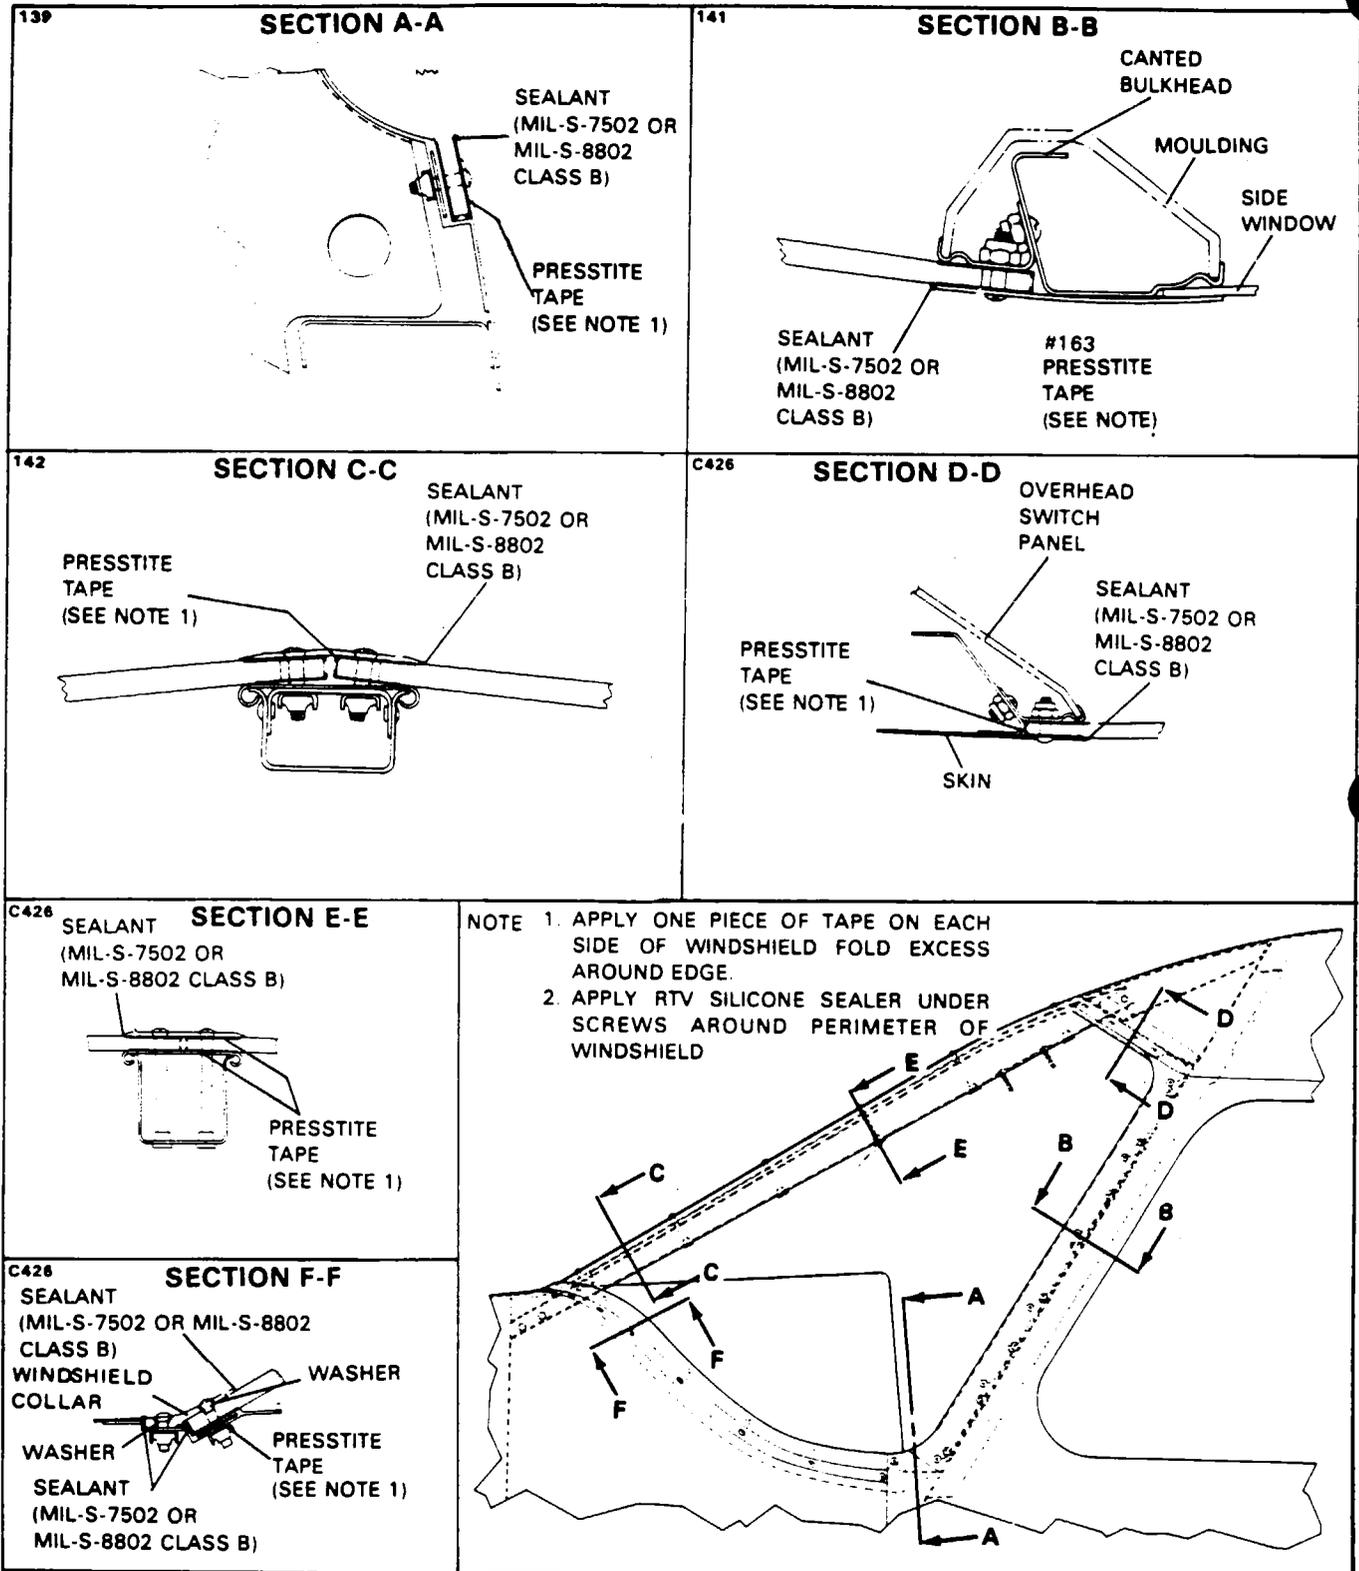

Figure 56-1. Windshield Installation (Standard)
**INSTALLATION OF STANDARD WINDSHIELD. (Refer to Figure 56-1.)**
11. Then apply sealant (MIL-S-7502 or MIL-S-8802 Class B) as indicated in Figure 56-1 and check for water seepage.